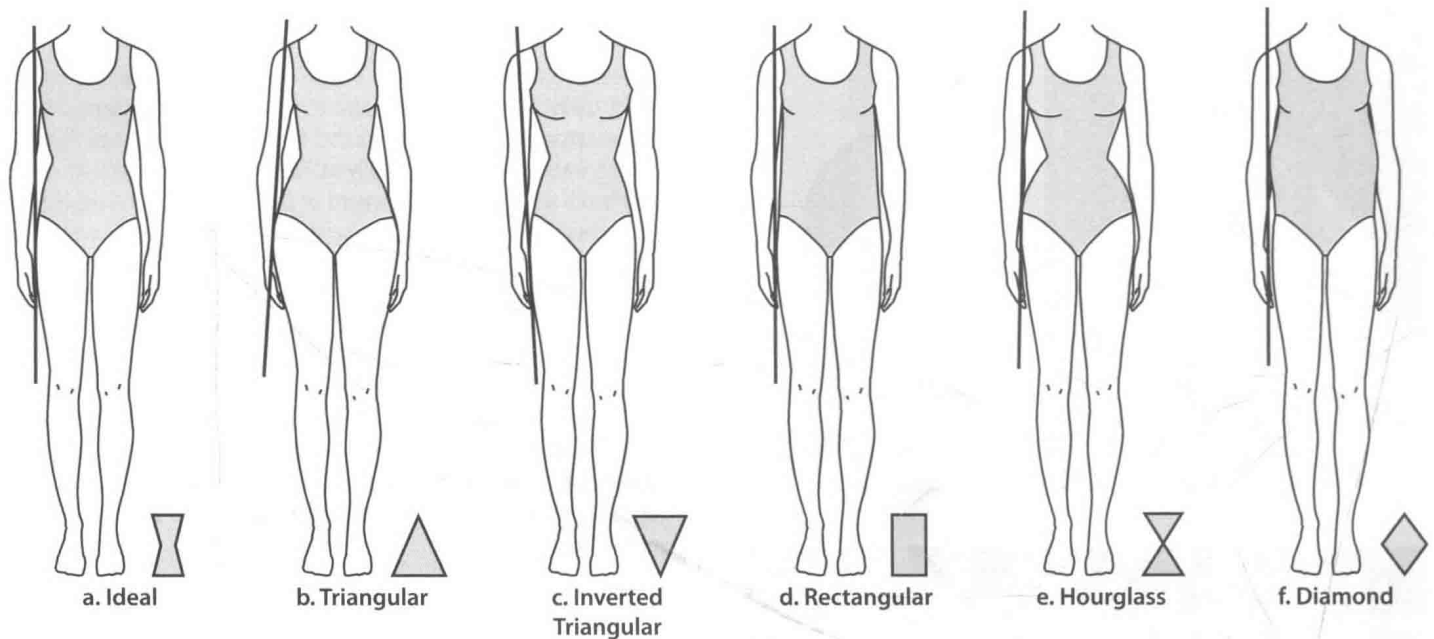

Figure 4.6 (a–f) Correctly positioned, a yardstick reveals general figure types. Check both sides for symmetry.
- As the final step of any figure evaluation, use a yardstick to identify the general figure type (see Figure 4.5). At the side of the body, line up the yardstick between the tip of the shoulder bone and the dominant curve—be it high, medium, or low hip level, bust level, or waist level (see Figure 4.6). Check both sides of the body for asymmetry.